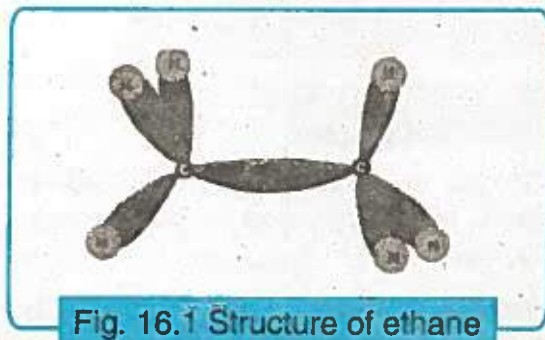

Fig. 16.1 Structure of ethane
(A) Let us consider ethane (CH_3-CH_3) for illustrating the orbital structure of alkanes. In ethane, each carbon atom is bonded to four other atoms, so it uses sp^3 hybrid orbitals to form these bonds. There are six C-H covalent bonds and one C-C covalent bond. Each of the C-H bonds, is the result of linear overlap of an sp^3 hybrid orbital of carbon and an 's' orbital of hydrogen. The C-C bond is formed due to the overlap of sp^3 orbitals, one from each carbon atom (Fig.16.1). All the C-H and C-C bonds are sigma (δ) bonds. All the bond angles are 109.5° (tetrahedral geometry). The C-C bond length is 1.54°A and each C-H bond length is 1.09°A .